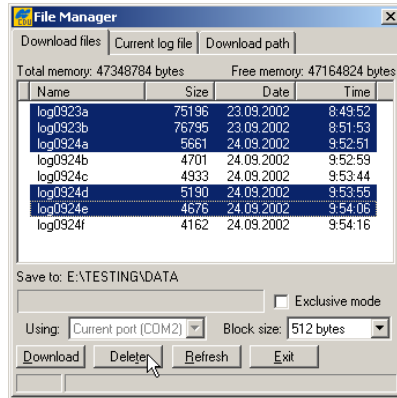

Figure 5-14. Delete Files
- Click **File ▶ File Manager** and select the file(s) to delete on the *Download files* tab (Figure 5-14 on page 5-9).
- Click **Delete** (Figure 5-14 on page 5-9).